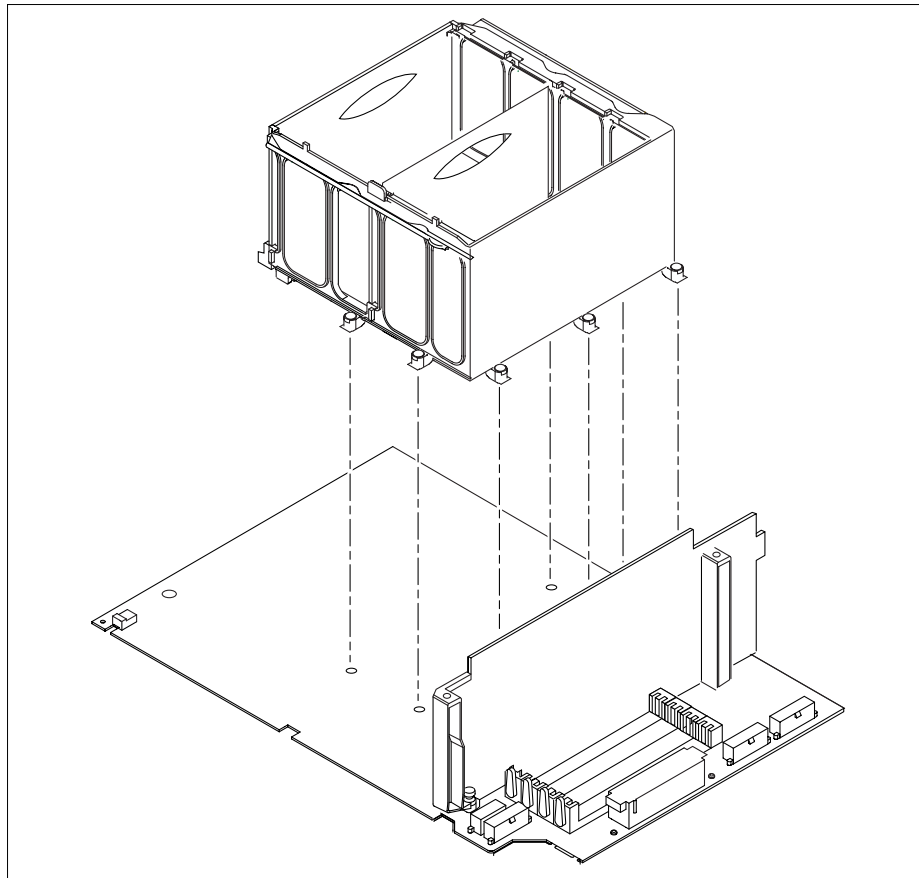

FIGURE 9-18 Removing and Replacing the CPU Shroud Assembly
2. Lift the CPU shroud assembly from the motherboard (FIGURE 9-18).
1. **Position and properly align the CPU shroud assembly on the motherboard (FIGURE 9-18).**